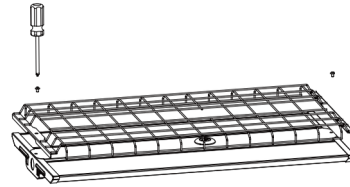

Figure 8
Step 2. Place the wire guard on the lamp and fix it with screws. (Figure 8)